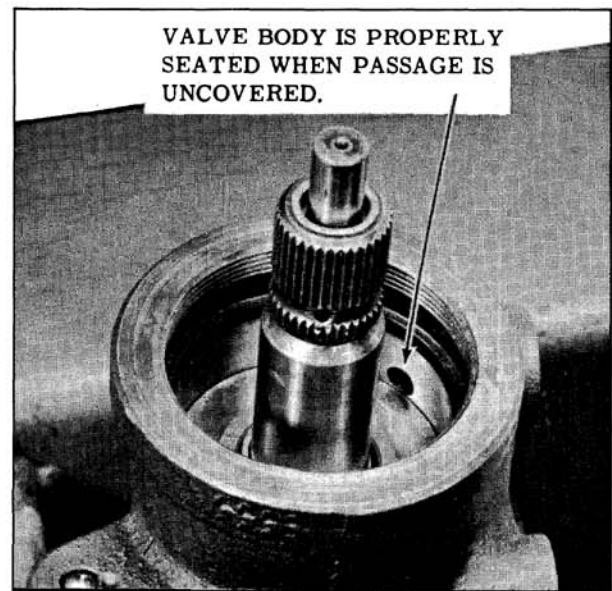

Fig. 8-68 Valve Body Properly Seated
**IMPORTANT:** The valve body is properly seated when the oil return hole in the housing is entirely uncovered. (Fig. 8-68)